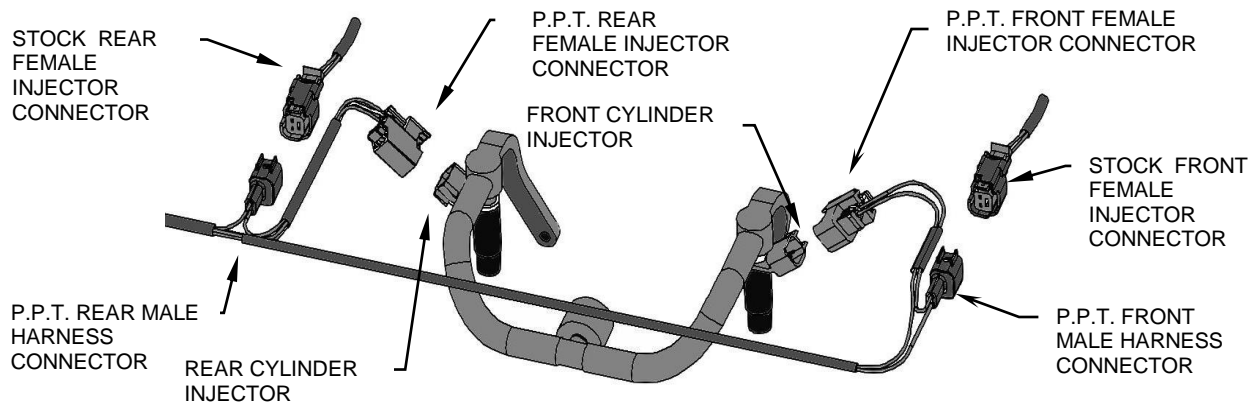
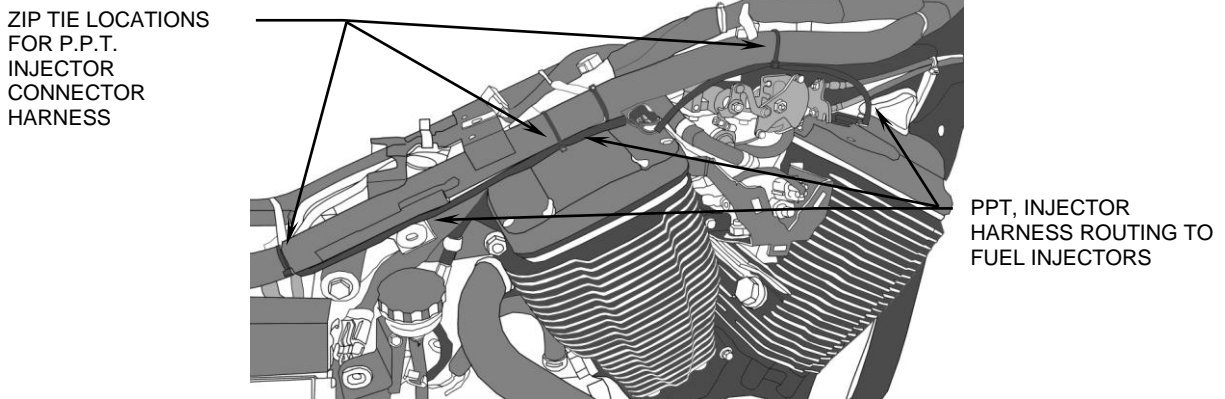

FIGURE 7
FIGURE 8
9. Route Fuel injector connectors along right upper frame rail. The longer of the two connector pairs will go to the front injector. The shorter pair to the rear injector. Mate the shorter female PPT connector to the rear injector and the corresponding male PPT connector to the original rear Victory female connector, see Figure 7. Be sure all connectors are snapped into place and the "RED" lock tab on the Victory female is secured into original position, as it was prior to disassembly, Figure 7.
10. Route the remaining injector connector harness over the throttle linkage along the upper right frame rail and mate the remaining female PPT connector to the front injector. Plug the Victory female connector into the mating male PPT connector, Figure 7.
11. Be sure all connectors are securely installed on injectors and snapped together and "RED" lock tabs are seated in place. Carefully tuck the connectors back towards cylinder heads and under frame rail. If space allows on your application install (2) 4" zip ties to connector harnesses and fuel rail, as prior to install.
12. Allow a small amount of slack at each injector connector location and secure injector harness to right upper frame rail in 3 locations with supplied 8 inch zip ties, Figure 8. Be sure harness is above and free from throttle linkage.